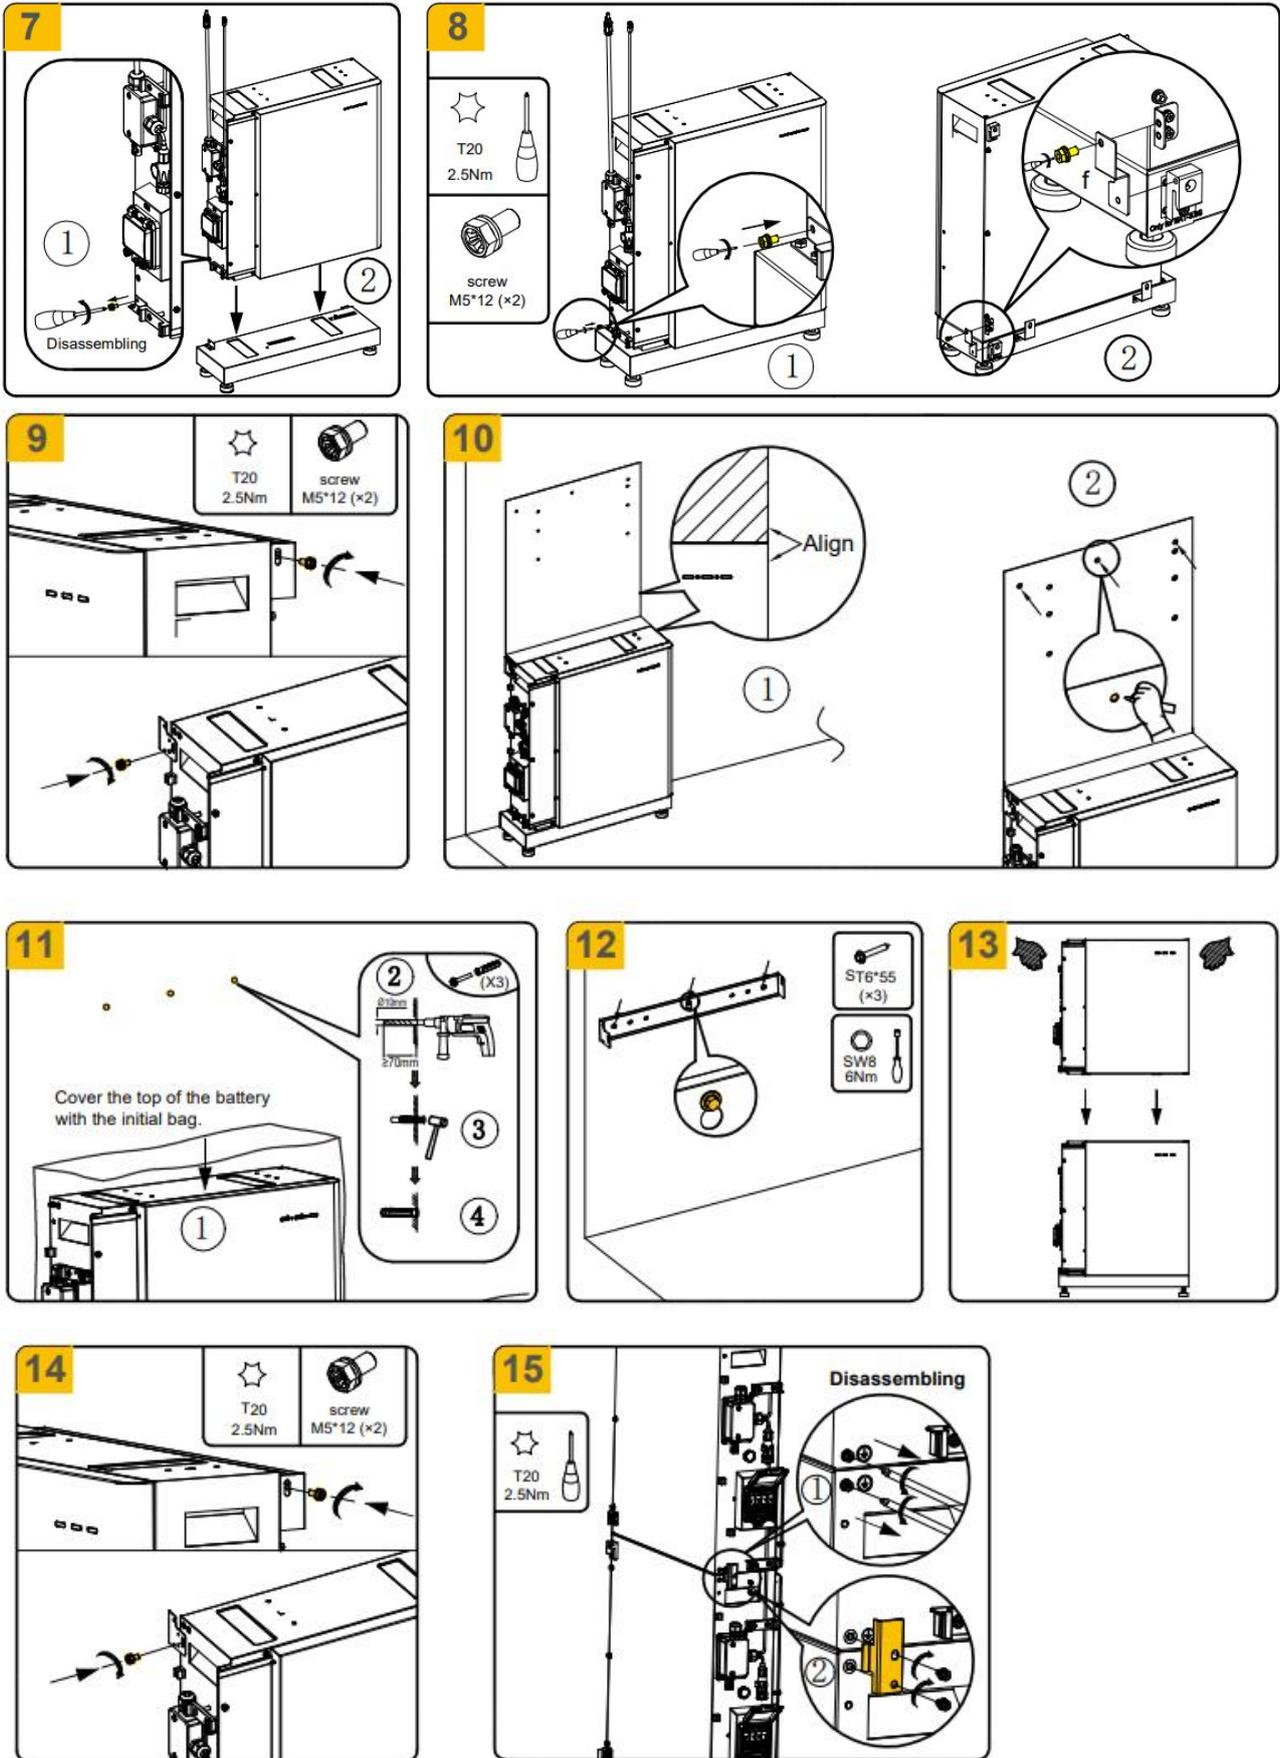

Figure 5-9 Battery Base Installation Steps Diagram
1. Take out two fixing brackets and place them against the rear side of the battery base, secure the two fixing brackets using the M5\*12 screws (tool: T20 screwdriver, torque: 2.5 Nm). Refer to 1-2 in Figure 5-9.
2. Place the battery base unit against the wall, place the spirit level on the battery base, check the bubbles and adjust the feet to level the battery base unit, then mark the position of the drill holes. Refer to 3 in Figure 5-9.
3. Take out the positioning cardboard, fold 90 degrees according to the markings, place the bottom surface of the positioning cardboard on the base unit and let the right edges flush, then mark the position of the drill holes. Refer to 4 in Figure 5-9.
4. Remove the base unit, drill 5 holes in the wall with a  $\Phi 10$  drill to a depth of about 70mm and clean the holes and insert screw anchors into the drill holes. Refer to 5 in Figure 5-9.
5. Secure the two fixing brackets to the wall using the provided screws (tool: Socket wrench SW8, torque: 6 Nm). Secure the limit bracket to the wall using the provided screws (tool: Socket wrench SW8, torque: 6 Nm). Refer to 6 in Figure 5-9.
6. Unscrew the screw at the lower left of the first battery. Lift the battery by using the handles at two sides, place the battery on the top of the battery base unit, align their contours and ensure that the battery is securely in place. Refer to 7 in Figure 5-9.
7. Secure the battery to the battery base unit, tighten them with one screw M5\*12 from the lower left of the battery (tool: T20 screwdriver, torque: 2.5 Nm). Take out one right connection plate (outdoor) from the battery base package, use it to connect the lower right corner of the first battery and the upper right corner of the base unit (tool: T20 screwdriver, torque: 2.5 Nm). Refer to 8 in Figure 5-9.
8. Secure the battery to the limit bracket on both sides with a screw M5\*12 provided. Use a magnetized screwdriver to insert a screw into the upper screw hole of the limit bracket and tighten it (tool: T20 screwdriver, torque: 2.5 Nm). Refer to 9 in Figure 5-9.
9. Take out the positioning cardboard, fold 90 degrees according to the markings, place the bottom surface of the positioning cardboard on the top of the first battery and let the right edges flush, then mark the position of the drill holes. Refer to 10 in Figure 5-9.
10. Cover the top of the battery with the initial packaging bag. Drill 3 holes in the wall with a  $\Phi 10$  drill to a depth of about 70mm and clean the holes and insert screw anchors provided into the drill holes. Refer to 11 in Figure 5-9.
11. Secure the limit bracket to the wall using the provided screws (tool: Socket wrench SW8, torque: 6 Nm). Refer to 12 in Figure 5-9.
their contours and ensure that the second battery is securely in place. Refer to 13 in Figure 5-9.
15. Take out the grounding bars from the battery package, and use it to connect the lower left corner of the upper battery and the upper left corner of the lower battery (tool: T20 screwdriver, torque: 2.5 Nm). When doing so, unscrew the two screws before connecting the grounding bar. Refer to 14 in Figure 5-9.
16. If you want to mount more batteries, please repeat the above mounting steps to mount the second column batteries. Refer to 15 in Figure 5-9.